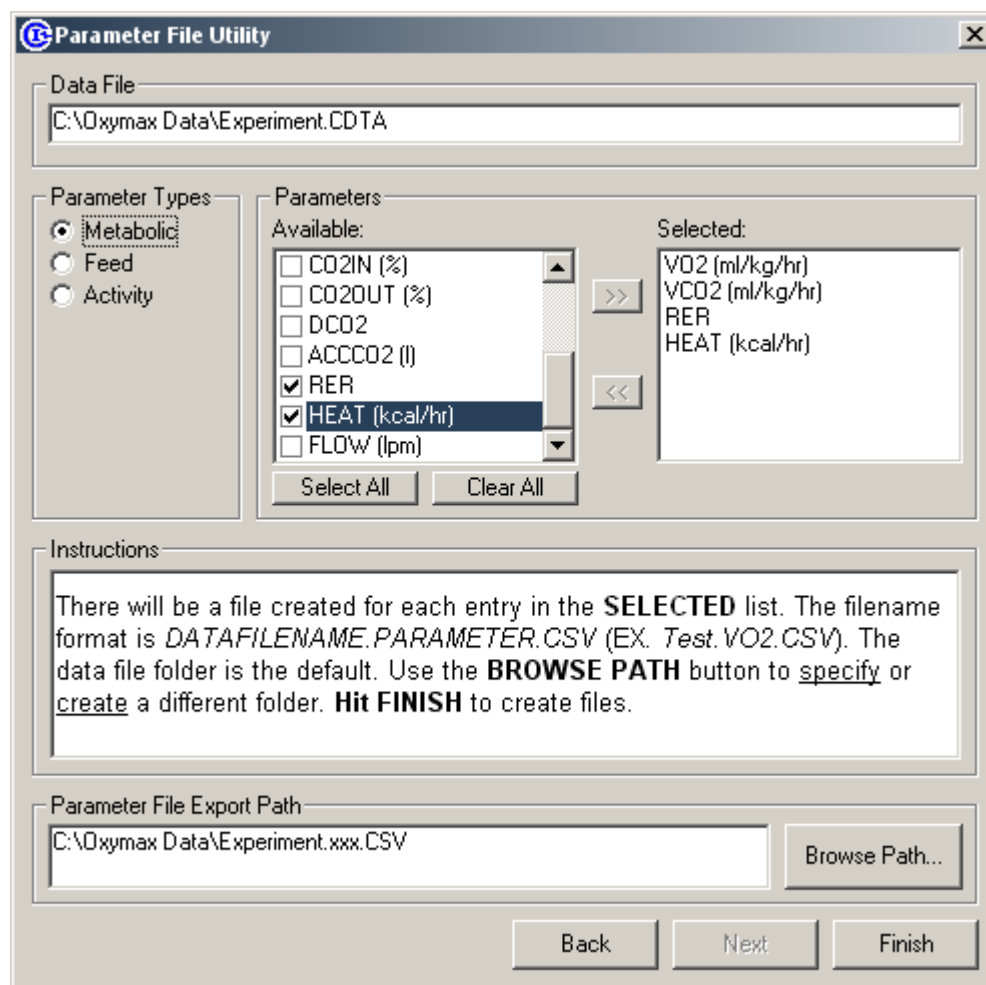

Figure 57 - Parameter File Utility
2. Click "File >> Parameters" to open the Parameter File Utility shown in Figure 57. Instructions for generating parameter CSV files are also displayed in the "Instructions" frame of this window.